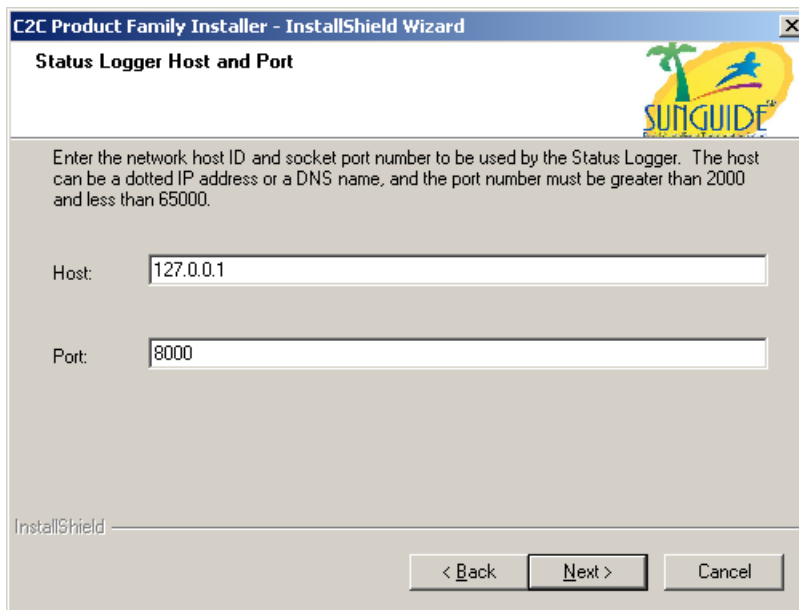

Figure 3-15 Status Logger Host and Port Dialog
The next dialog displayed is the Status Logger Host and Port Dialog shown in Figure 3-15. This dialog is used to specify Internet Protocol (IP) address and port number for communicating to the Status Logger. Each of the software components communicates to the Status Logger to log status messages during execution. The Status Logger is delivered as a separate product with its own setup program. Refer to the Status Logger Software Users Manual for installation and usage of the Status Logger. Enter the IP address and port number for the Status Logger service and press the Next button; or, press the Back button to return to the previous dialog; or, press the Cancel button to exit the installation.